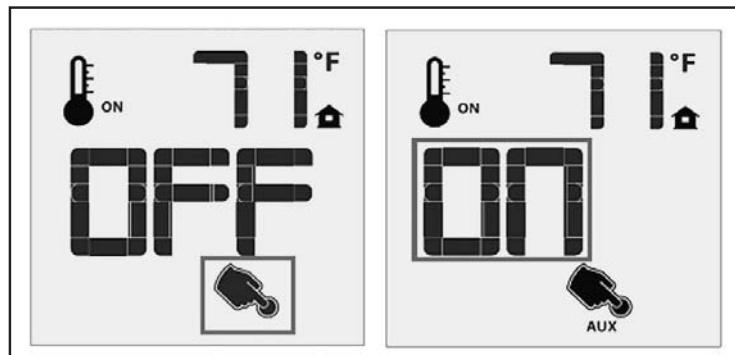

Figure 116: Remote Control with Aux for Accent Lights.
The DV48 is shipped with two (2) firebox accent lights. They are connected to the auxiliary power outlet of the Proflame Fan Control Module. The lights can be turned on or off using the Auxiliary function on your remote control. Press the Mode Key on the remote control until the Auxiliary Function icon is highlighted. Pressing the Up or Down arrow keys will turn the accent lights on or off. See Figure 116 for the AUX icon details. A single "beep" will confirm the reception of the command.